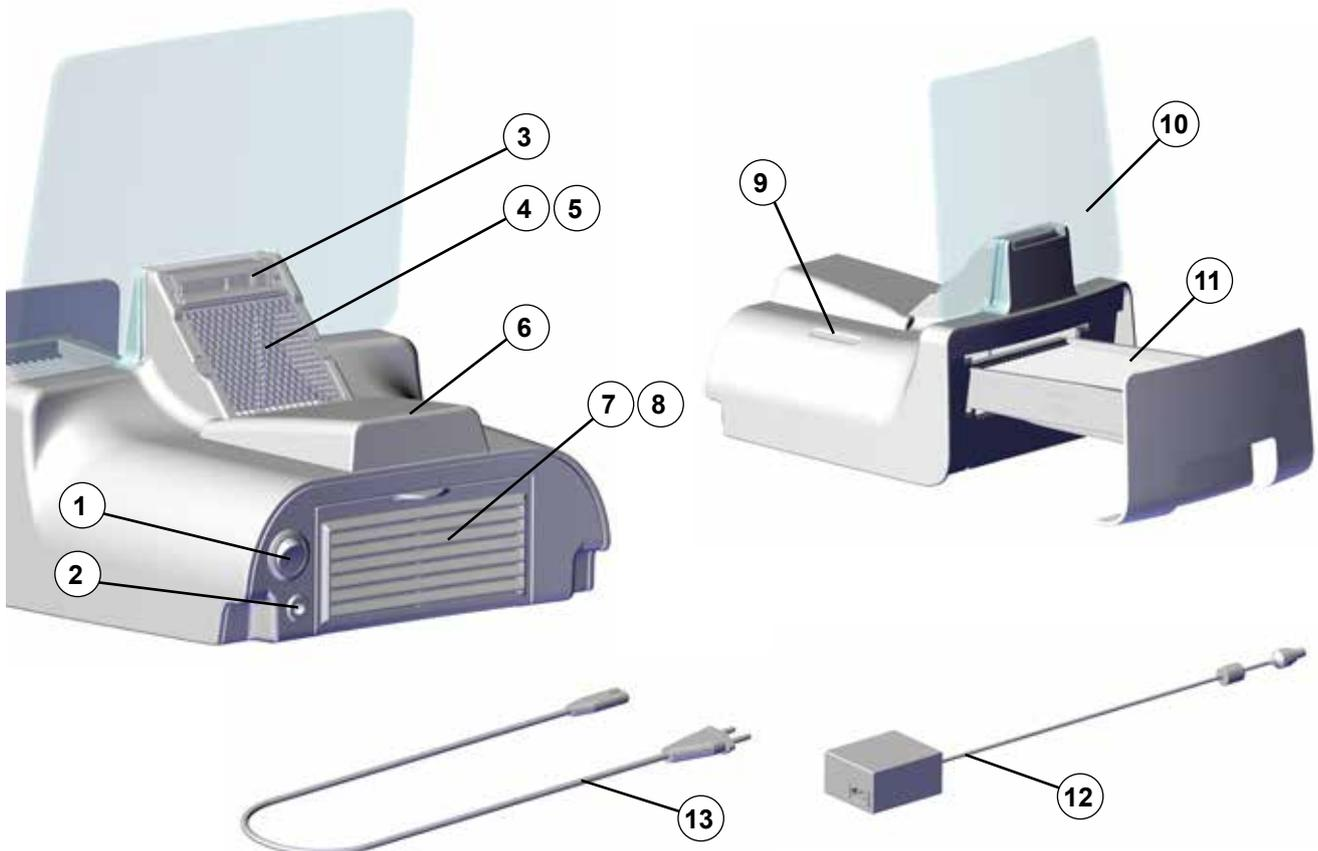

Fig. 1
- ⇒ Use the on/off switch (1, Fig. 1) to turn off the unit.
- ⇒ Plug the power cord (13, Fig. 1) into the charger (12, Fig. 1).
- ⇒ Connect the charging plug to the charging socket (2).
Use the On/Off switch (1, Fig. 1) to switch the unit on and off.